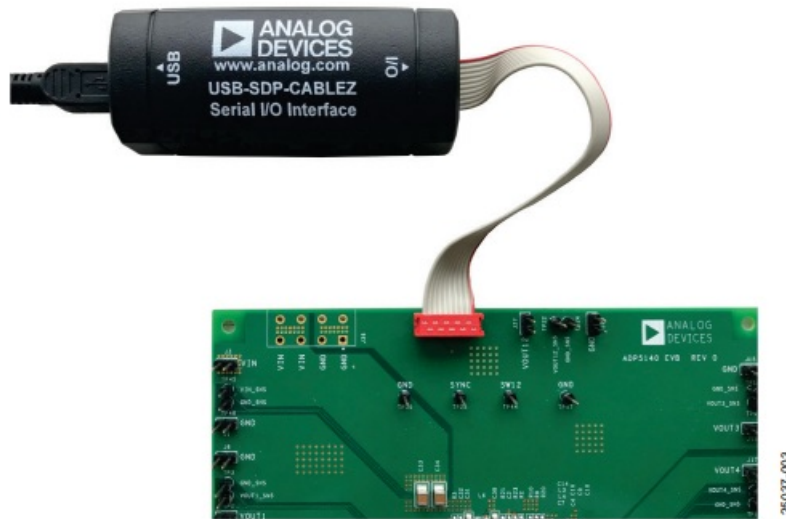

Figure 3. USB-SDP-CABLEZ Connection
3. Connect the USB-SDP-CABLEZ to P1, as shown in Figure 3.